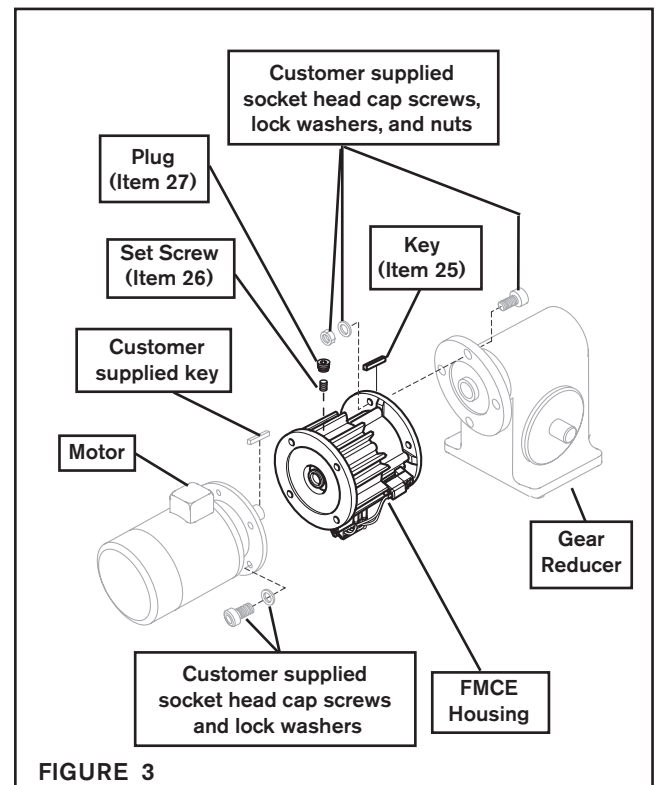

FIGURE 3
1. Insert the Key (Item 25) into the output shaft of the FMCE (See Figure 3).
2. Slide the FMCE output shaft into the gear reducer (See Figure 3).
3. Secure the FMCE to the gear reducer using customer supplied socket head cap screws, lock washers, and nuts (See Figure 3).
4. Insert the customer supplied key into the motor shaft keyway (See Figure 3).
5. Slide the motor into the FMCE and secure it to the FMCE using customer supplied socket head cap screws and lock washers (See Figure 3).
6. Align the Set Screw (Item 26) in the Drive Disc (Item 4) with the hole in the FMCE Housing (See Figure 3).
7. Tighten the Set Screw (Item 26); then, install the Plug (Item 27) (See Figure 3).